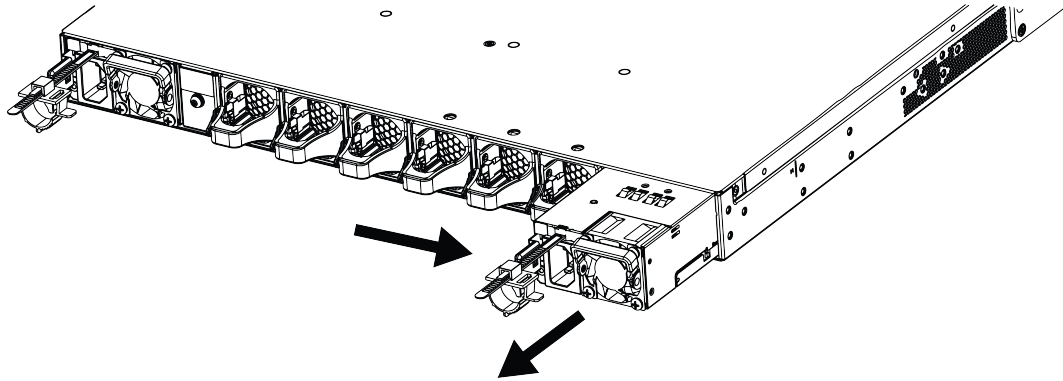

Figure 25: Removing a 550 W AC Power Supply
5. Push the latching tab toward the power supply handle and pull outward on the handle to disengage the power supply internal connectors. See Figure 25.